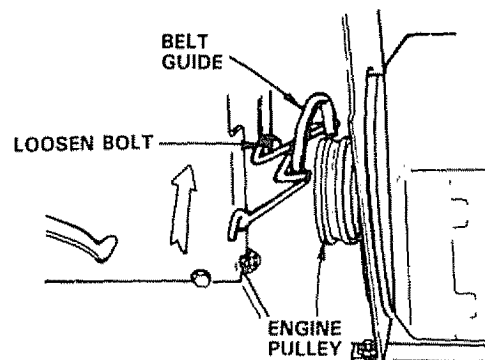

FIGURE 33
- c. Loosen (do not remove) two engine pulley belt guide bolts and swivel R.H. side of belt guide up. Tighten L.H. bolt to hold belt guide in position (Fig. 33).